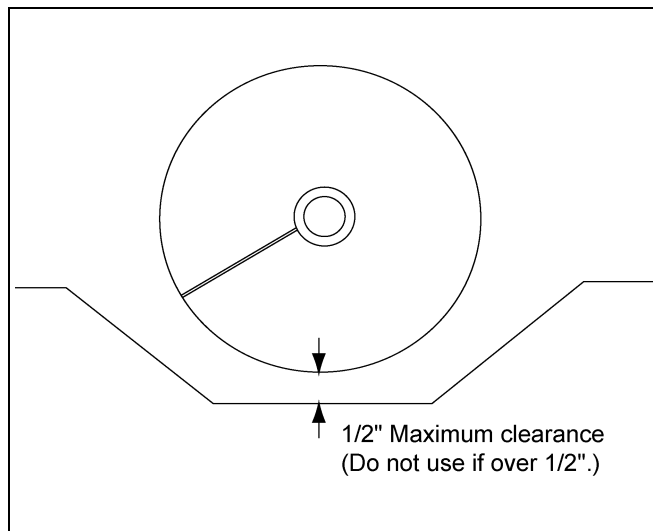

Figure 3E
1. Determine the best location for the sensor in the auger. There must be at least one full pitch of flighting on both sides of the sensor and no more than 1/2" clearance between the bottom and the edge of the flighting to ensure that grain is moved over the sensor blade. (See Figure 3C and Figure 3E on Page 14.)